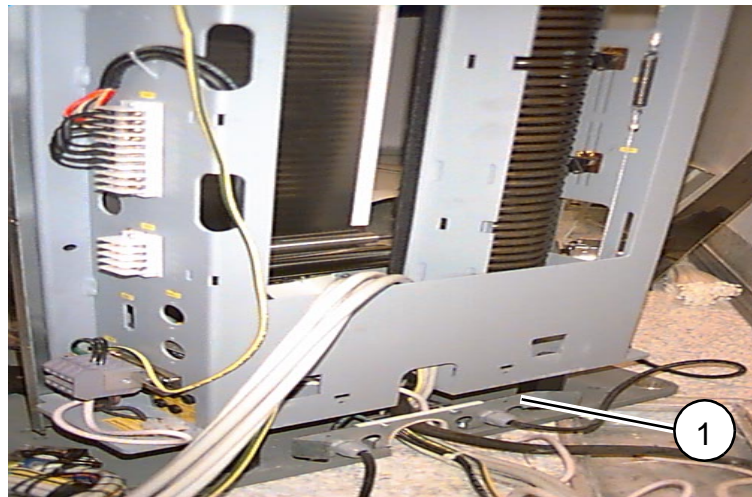

Fig. 6
- Attach the cable bracket to the base of the stand (1/Fig. 6).